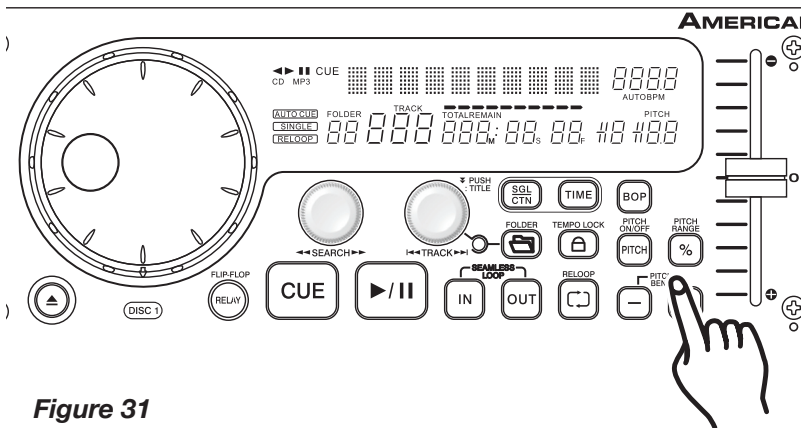

Figure 31
3. PITCH BEND BUTTONS (14):
The (+) *PITCH BEND BUTTON (14)* will increase track playback speed and the (-) *PITCH BEND BUTTON (14)* will decrease track playback speed. The extent to which the speed changes is proportionate to the amount of time the button is pressed. For example, if the (+) *PITCH BEND BUTTON (14)* is held down continuously as in figure 31, the disc speed will increase and will continue to increase until it reaches a maximum of 16% or (100% for CD) speed gain. When you release the (+) *PITCH BEND BUTTON (14)* the disc speed will automatically return to its previous set speed.
4. JOG WHEEL (1):